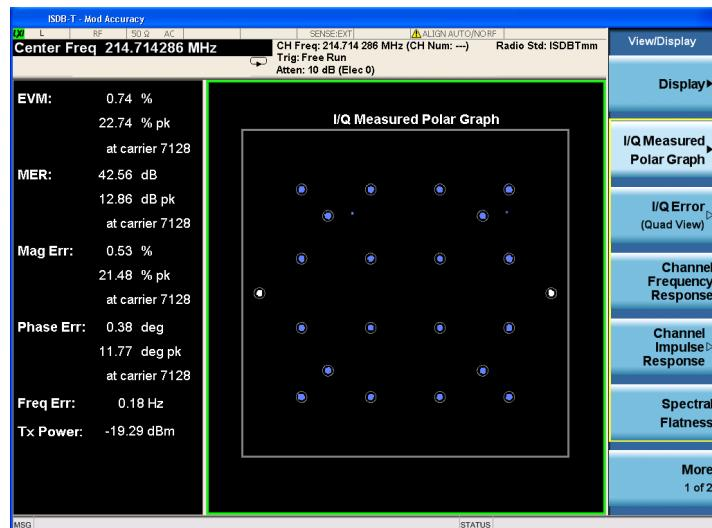

Figure 20. I/Q measured polar graph view for ISDB-Tmm signals
View the I/Q measured polar graph results (Figure 20)	[View/Display] {I/Q Measured Polar Graph}
- **I/Q measured polar graph** view (Figure 20): A view of I/Q measured data of the specified sub-carriers